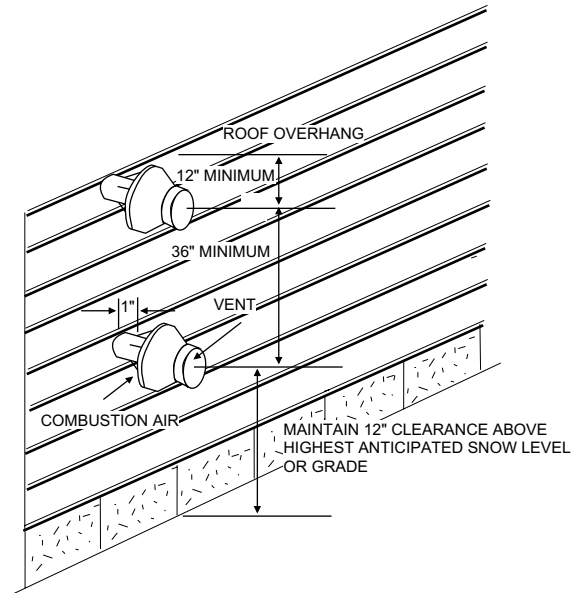

FIGURE 5 - SIDEWALL TERMINATION FOR MULTIPLE VERTICAL CONCENTRIC VENTS
2. If venting multiple units using multiple concentric vents, refer to Figures 5 & 6 for specific clearances.